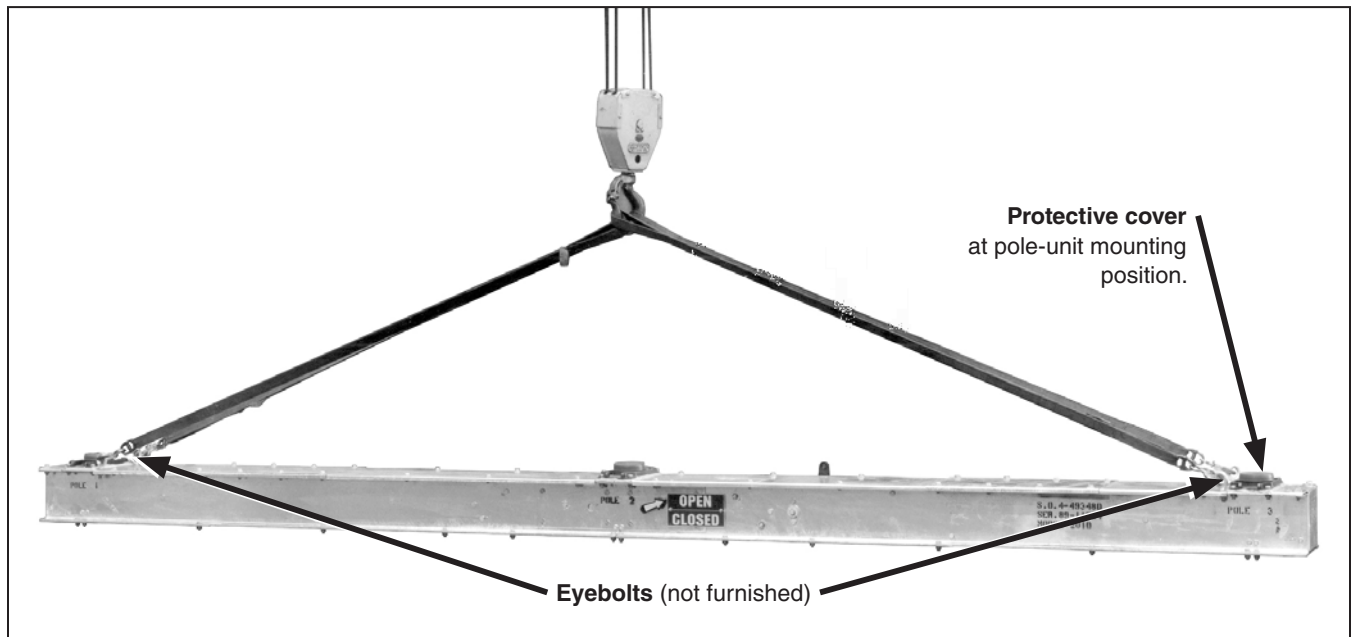

Figure 5. Hoisting the high-speed base.
STEP 2. Attach four suitable lifting slings to the high-speed base. See Figure 5. Unbolt the base from the shipping skid and lift the base atop the mounting pedestals, as shown on the catalog drawing.
- (c) Remove the protective cover on the high-speed base at the pole-unit mounting position. See Figure 5 on page 13. Now, continue to raise the pole-unit to its **Mounting** position at the center of the high-speed base, as shown on the catalog drawing. Carefully guide the pole-unit to avoid damaging the insulated operating rod.